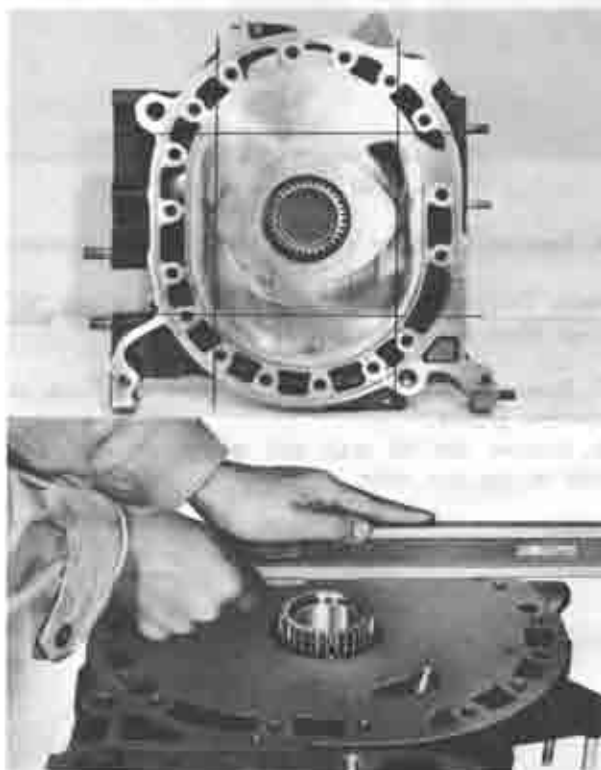

Fig. 1-26 Checking housing distortion
1. Check for housing distortion by placing a straight edge on the housing surface. Measure the clearance between the straight edge and the housing surface with a feeler gauge, as shown in Fig. 1-26. If the distortion exceeds 0.04 mm (0.0016 in), reface or replace the housing.